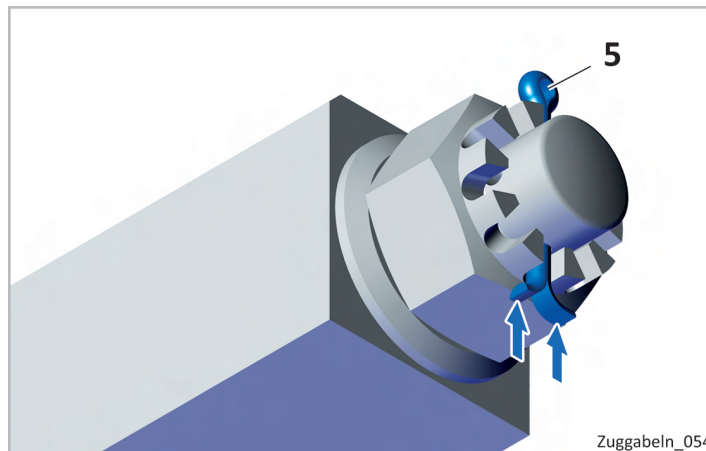

Figure 30: Securing the split pin
- ▶ Fit the split pin (5) and bend it to prevent it from falling out, see Fig. 30.